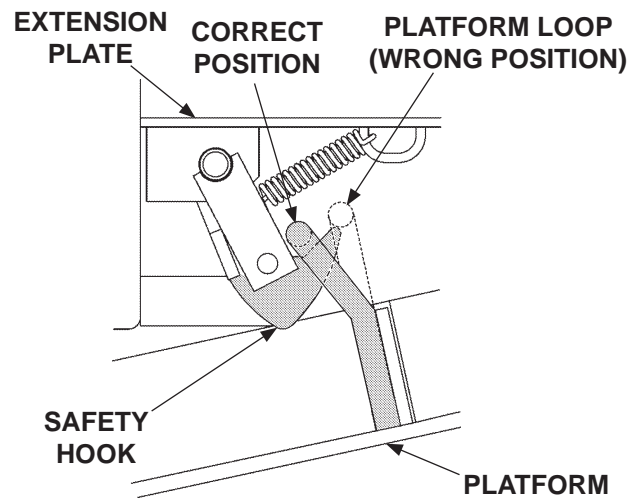

FIG. 23-1
2. When the Liftgate is stowed, see if **platform loop** is positioned above the **safety hook** as shown in **FIG. 23-1**.
1. If the safety hook is not positioned correctly (**FIG. 23-1**), lower platform to ground level (**Operation Manual**).